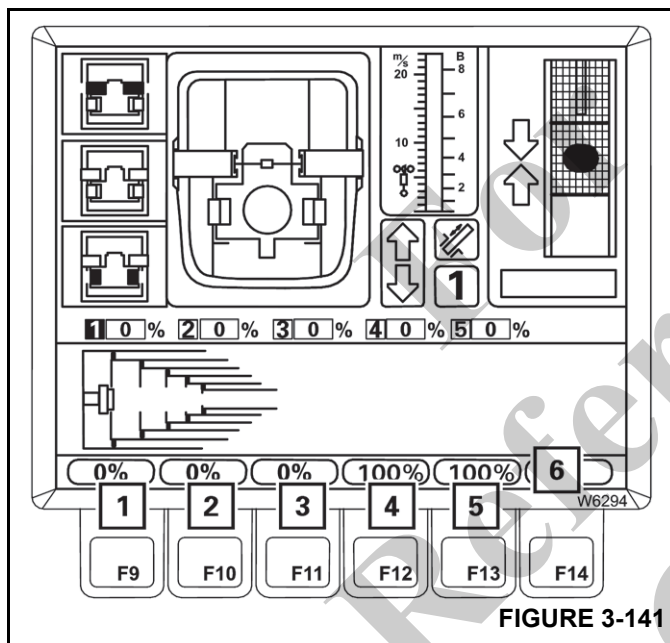

FIGURE 3-141
The display (6) (Figure 3-141) shows the set values for all telescopic sections.